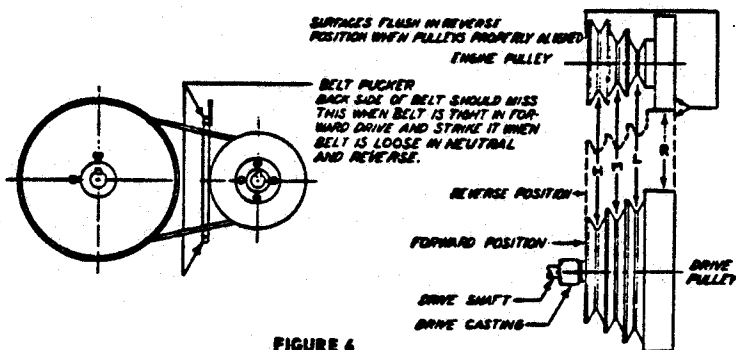

FIGURE 6
After moving belt make sure belt is between arms of belt pucker and that belt just misses the arms when engaged in forward position. See Figure 6.
Before adjusting the belt tightness check the engine and drive pulley alignment by pulling the shift lever into reverse position and looking at the front edge of the drive pulley and the reverse disc where they come together. They should be flush. (See Fig. 6). If they are not, bring flush by moving the engine pulley on the engine shaft (after checking to make certain drive pulley is tight against end of drive casting where it belongs.)
6. Check for belt contact with pucker as noted in Fig. 6. If not correct the pucker can be shifted by loosening the mounting bolts holding it to the engine and shifting it on its slotted holes.